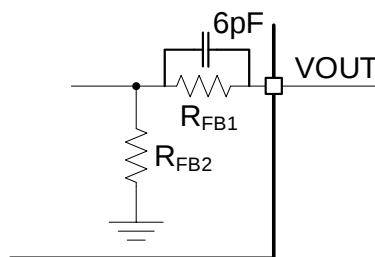

Figure 7: Feedback Divider Network (Fixed Output Version)
The feedback (FB) resistor divider is integrated internally (see Figure 7). Connect the VOUT pin directly to the output.